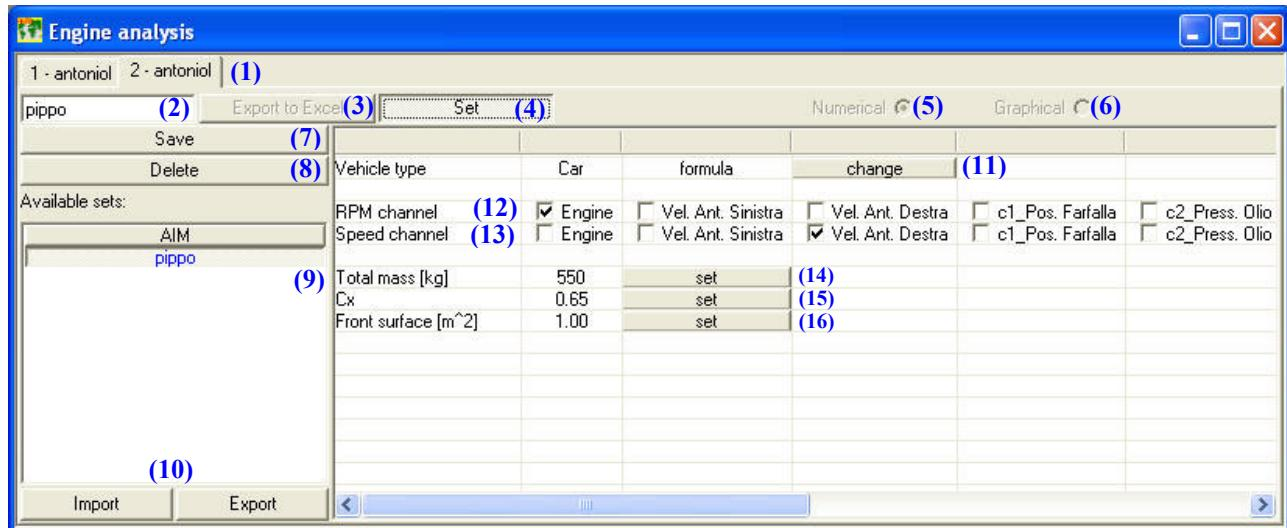
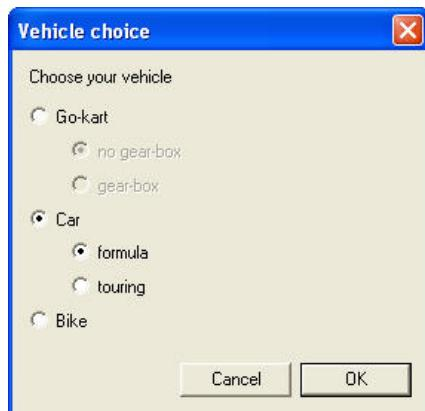
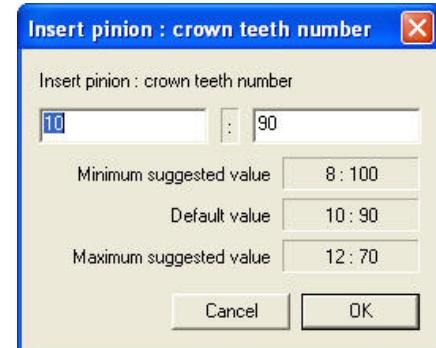

Fig. 6.12 – *Engine RPM analysis* window: settings
Fig. 6.13 – *Vehicle choice* window
Fig. 6.17 – Transmission ratio window
The layout of the *Engine RPM analysis* view is shown in Figure 6.12.
Press button *Change*, labelled as (11) in Figure 6.12, or button *Vehicle*, inside the *Command* toolbar. Figure 6.13 will be prompted on your PC.
If you set a value greater than the maximum one (or lower than the minimum one), it will be red highlighted in Figure 6.12.
Press button Set corresponding to the transmission ratio (not shown in Figure 6.12). Figure 6.17 will be prompted on your PC.